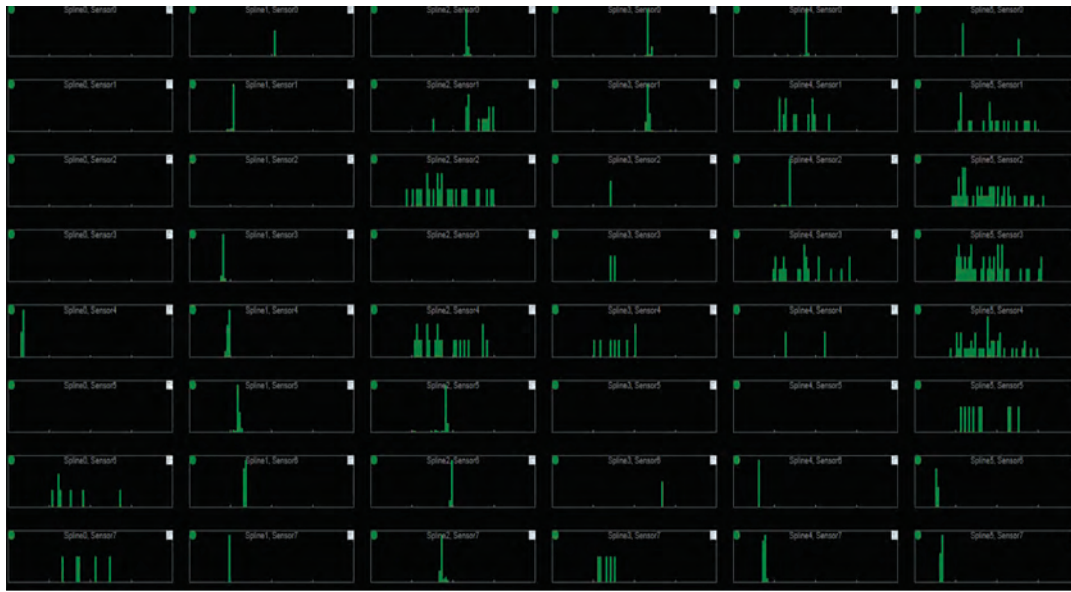

Figure D-5. Example of several nodes with detected range distributions extending beyond a reasonable excursion distance.
5. Similarly, detected ranges should not spread over a range that is larger than expected for wall or AcQMap Catheter motion, particularly in a static position. Excursions over a large distance will also be noticeably swept laterally within histograms. The plot in *Figure D-5* shows several nodes with detected range distributions extending beyond a reasonable excursion distance. These nodes are detecting noise and should be excluded by clicking the white checkbox in the upper, right corner of each errant histogram.
The broad, sparse distributions shown in *Figure D-5* are consistent with a low level of noise being detected. Typically, a small reduction in detection gain or an increase in detection threshold will return the range detection behavior to normal.